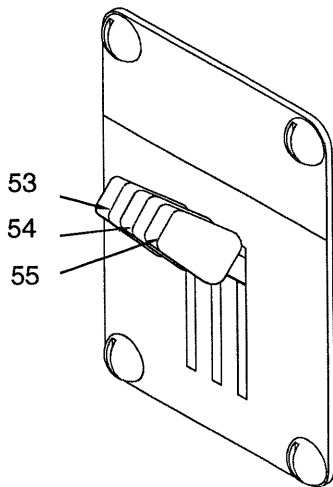

Fig. 3-15 Heater Controls
53. Heater Temperature Control See Fig.3-15
See Fig.3-15
55. Defrost/Heater Control (not used) See Fig.3-15
57. Stereo Cassette See Fig.3-15 (optional)